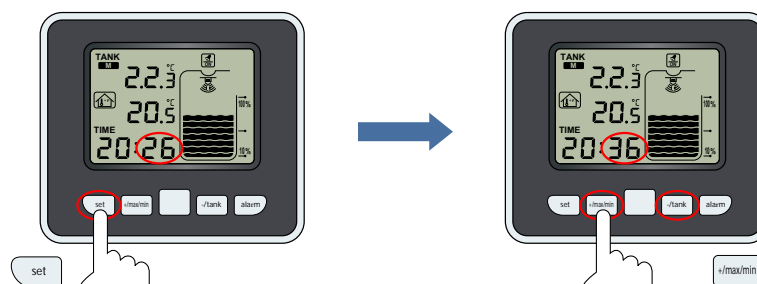

Figure 12
- **MINUTE:** Minute value will flash. Press **+max/min** or **-/tank** key to increase or decrease minute value. When minute value is set press **set** key to set temperature unit (Figure 12).